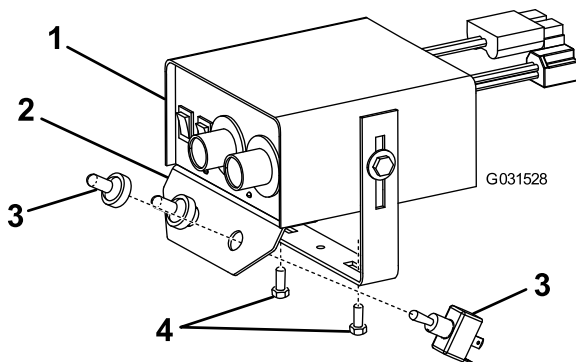

Figure 11
1. Attach the mounting bracket to the vehicle using 2 sheet-metal screws (Figure 11).
2. Connect the switch plate to the controller (Figure 11).
4. Install the 2 toggle switches to the switch plate (Figure 11).